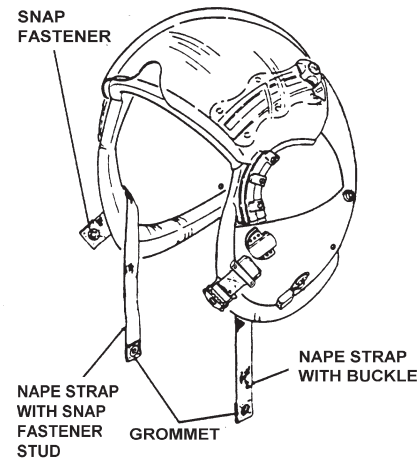

Figure 3-31. Nape Straps
- a. Referring to Figure 3-31, insert the grommeted end of the nape strap (with the snap fastener at the opposite end) from the outside through the slot located on the bottom right of the helmet shell assembly. Ensure that the snap fastener is facing outward.